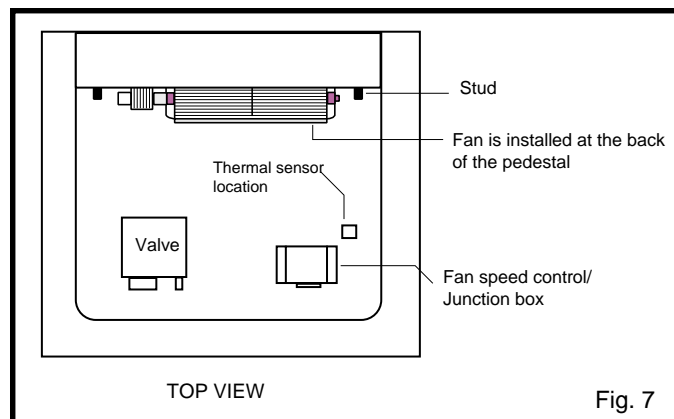

Fig. 7
2. Guide the fan through the opening at the back of the pedestal, with the outlet pointed up and the fan mounting bracket facing the back of the fireplace. The fan mounts over two studs which hold the fan just below the firebox floor. Do not install this fan on the base. Hold the fan in place with the two nuts provided. (Fig. 7)